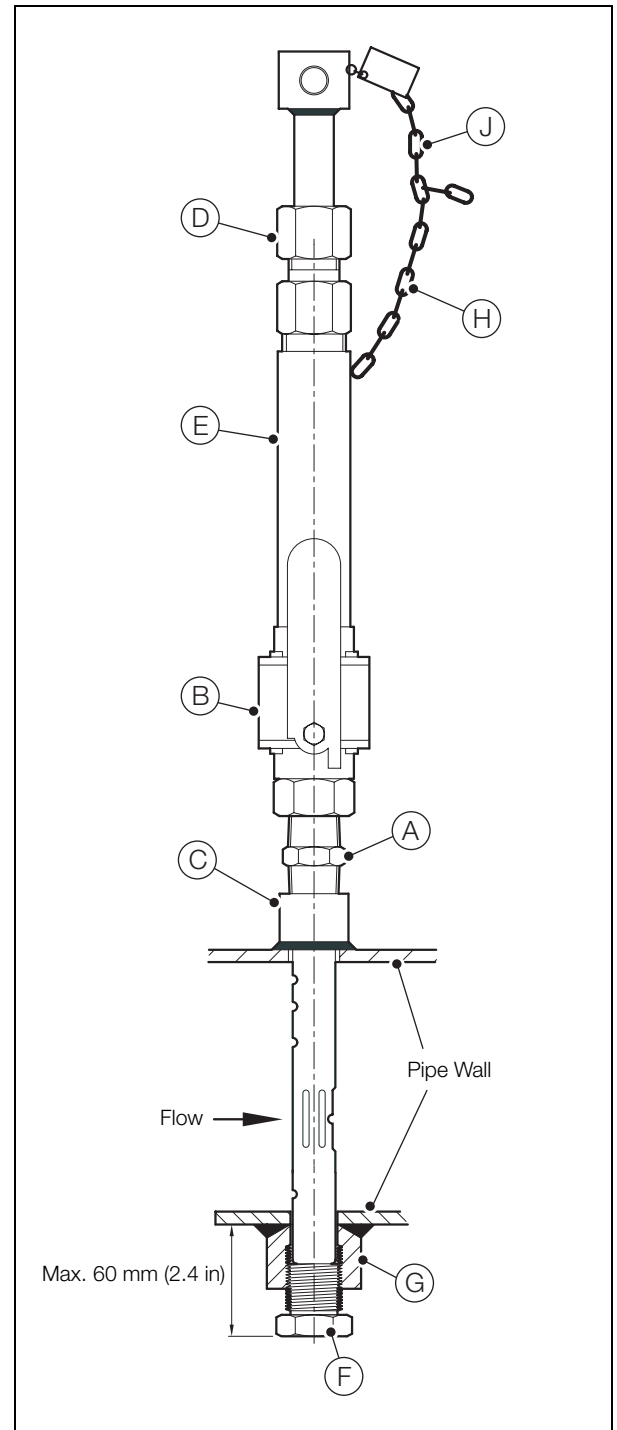

Fig. 2.12 Model L702 Installation
8. Referring to Fig. 2.12:
- a. Apply suitable sealant to the close nipple (A) and isolation valve (B) and fit them to the threaded fitting (C). Tighten securely.
- b. Ensure packing material is in place in packing gland (D).
- c. Fit pressure chamber (E), complete with packing gland (D), to isolation valve (B), using appropriate sealants where necessary.
- d. Fully open isolation valve (B) and insert the TORBAR through the packing gland, isolation valve and process pipe until the tip exits at the opposite fitting.
- e. Apply appropriate sealant to the threads of support plug (F).
- f. Screw support plug (F) into threaded fitting (G) and tighten, ensuring that it contacts the TORBAR.